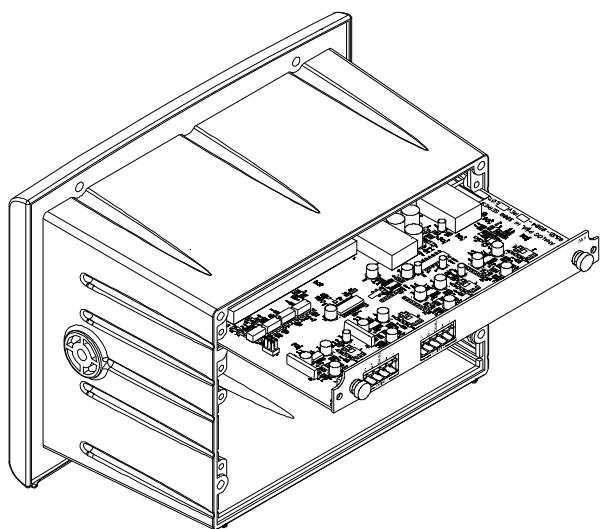

FIG. 79: INSTALLING THE ANALOG OPTION CARD IN A 3000 CHASSIS
Step 2. Slide the Analog Option Card into Slot #0 or Slot #1. (See Fig. 79)